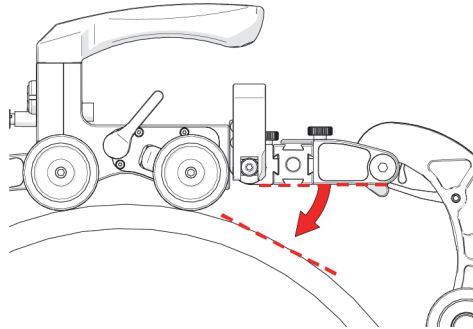
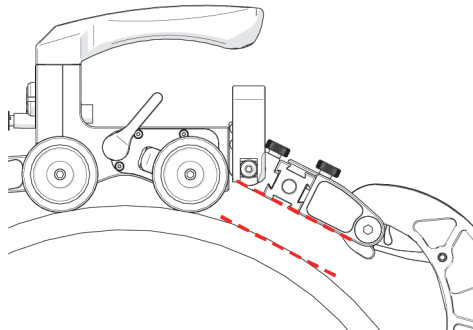

Figure 3-5 Drop pivot nose
Figure 3-6 Adjust parallel with scan surface tangent
6. Adjust the pivot nose angle to align the frame bar parallel with the tangent of the scan surface (see Figure 3-5 on page 84 and Figure 3-6 on page 84).